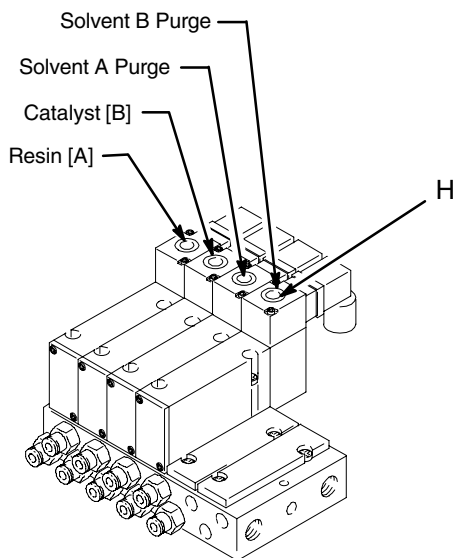

Fig. 4.7
6. Press the manual override button (H) on the solvent solenoid valve, which is inside the PrecisionMix II solenoid enclosure. Refer to Fig. 4.7.
3. Trigger the spray gun, and press the manual override button for air on the manifold solenoid valves for five seconds. See Fig. 4.7, page 4–9.